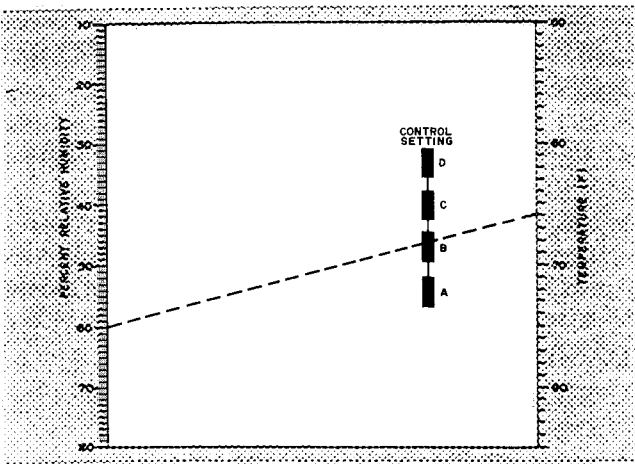

Fig. 13 — Nomograph for Determining Enthalpy Control Setting
2. In Fig. 13, locate percent humidity on the left-hand scale and dry-bulb temperature on the
right-hand scale. Example in Fig. 13 uses 60% RH and 66 F.
4. Adjust the enthalpy control dial to the setting indicated on control setting scale in Fig. 13. The control setting for example conditions is the B range.